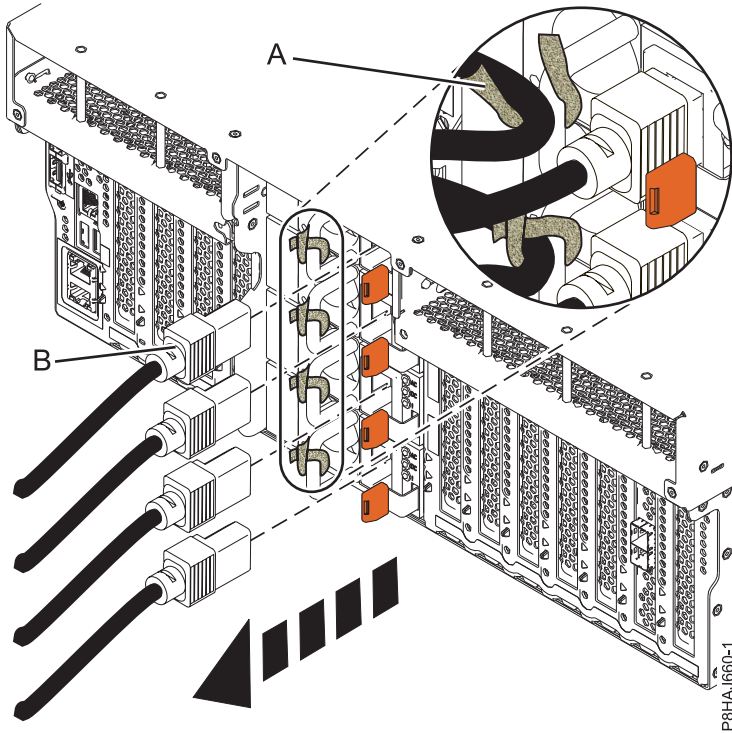
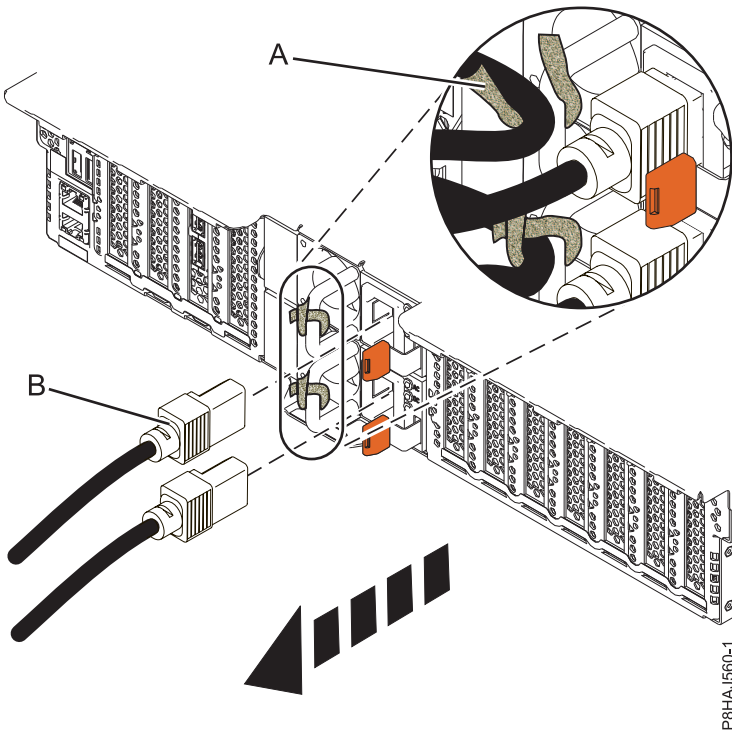
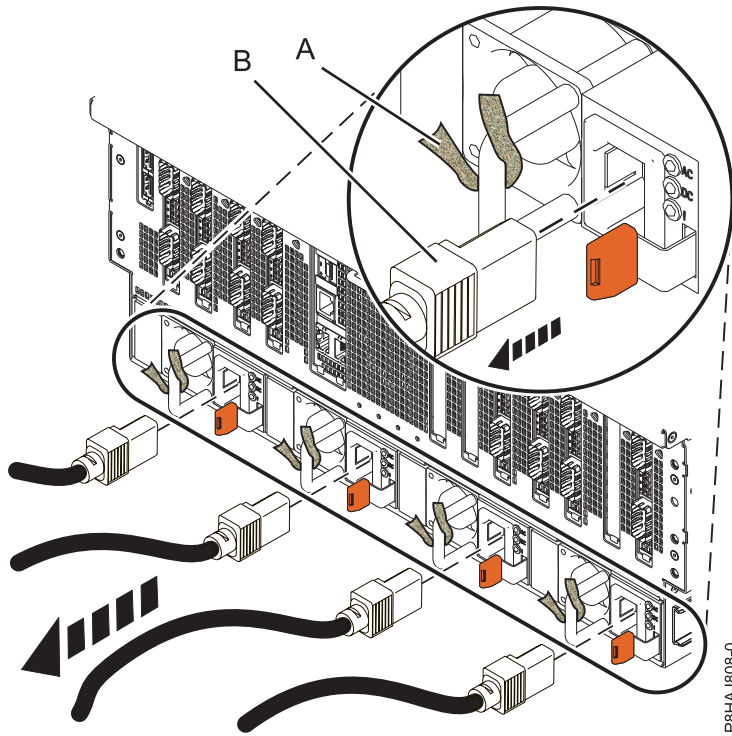

Figure 56. Removing the power cords from an 8247-42L, 8286-41A, or 8286-42A system
Figure 57. Removing the power cords from an 5148-21L, 5148-22L, 8247-21L, 8247-22L, 8284-21A, or 8284-22A system
Figure 58. Removing the power cords from an 8408-44E or 8408-E8E system
3. Disconnect the power cords (**B**) from the system unit. See Figure 56 on page 94, Figure 57 on page 94, or Figure 58 on page 95 or depending on the type of your system.